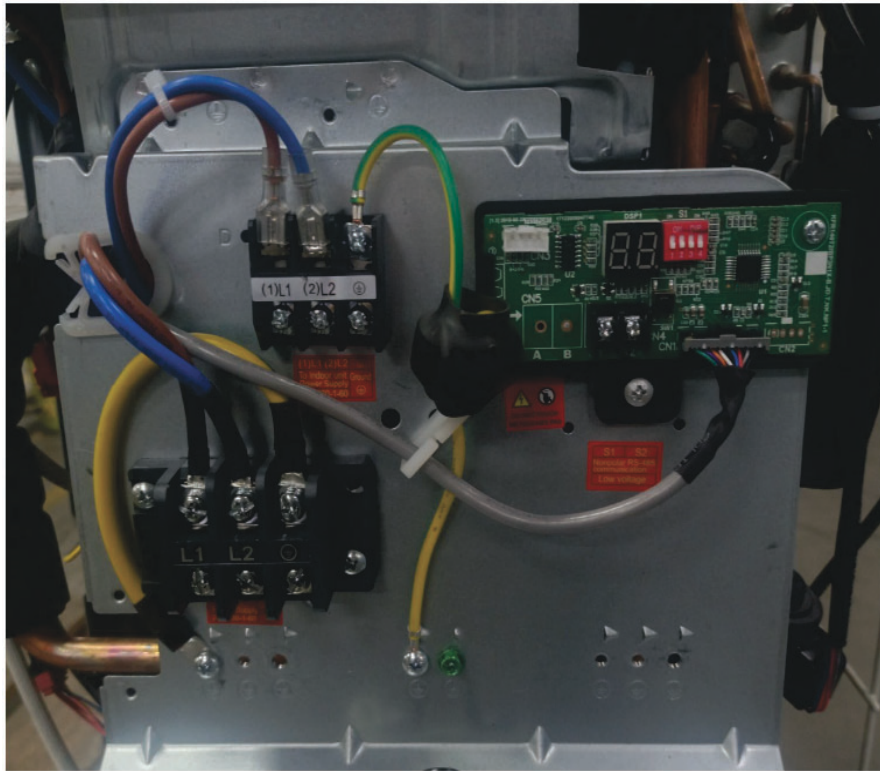

Fig. 24 —Grounding Wire Image - Size 36K
2. All connections between indoor and outdoor units must be as shown in Figure 24, , and 25. The connections are sensitive to polarity and will result in a fault code.